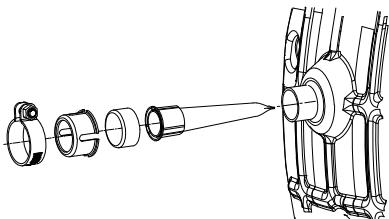

Figure 4-6. Spark Arrestor Screen
1. See **Figure 4-6**. Remove the clamp to remove retainer.